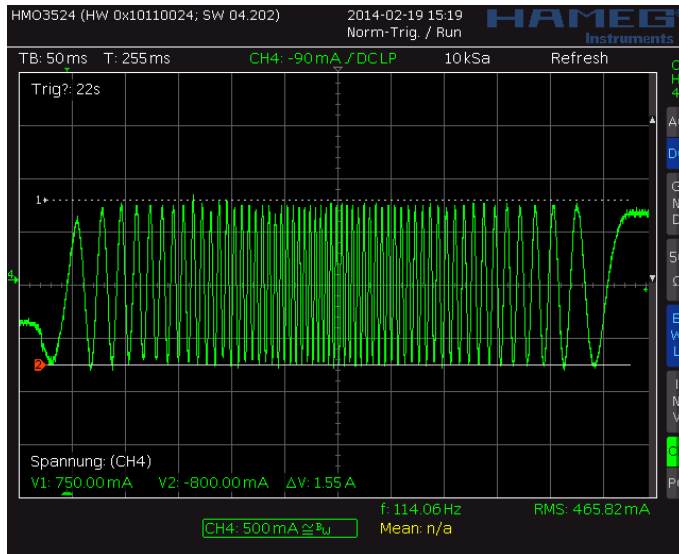
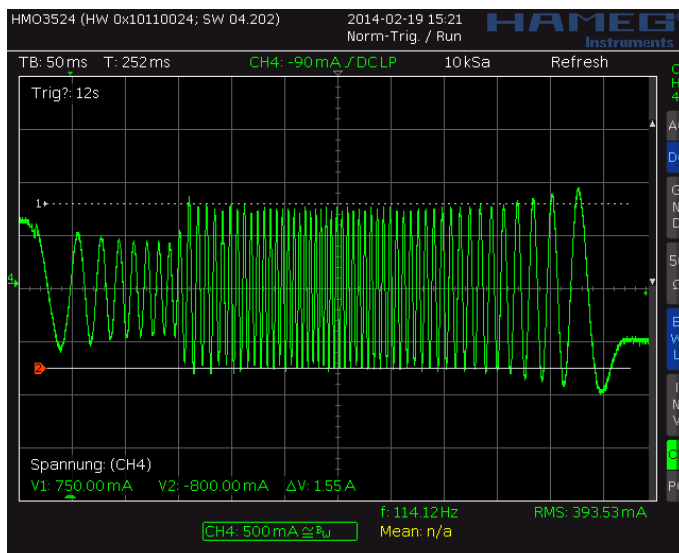
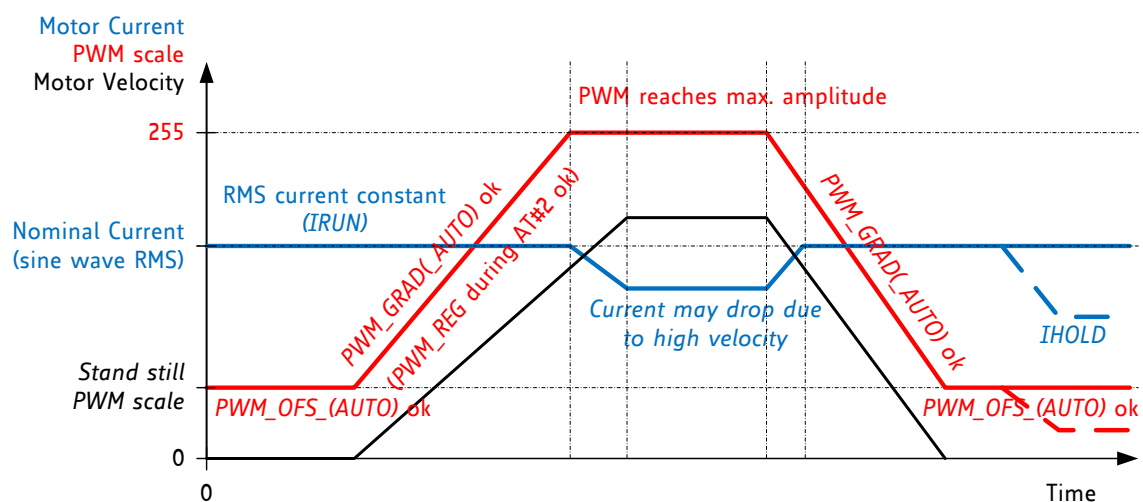

Figure 6.3 Scope shot: good setting for PWM_REG
Figure 6.4 Scope shot: too small setting for PWM_REG during AT#2
Figure 6.5 Successfully determined PWM_GRAD(_AUTO) and PWM_OFS(_AUTO)
In StealthChop voltage PWM mode, the autoscaling function (*pwm_autoscale* = 1, *pwm_autograd* = 1) regulates the motor current to the desired current setting. Automatic scaling is used as part of the automatic tuning process (AT), and for subsequent tracking of changes within the motor parameters. The driver measures the motor current during the chopper on time and uses a proportional regulator to regulate *PWM_SCALE_AUTO* in order match the motor current to the target current. *PWM_REG* is the proportionality coefficient for this regulator. Basically, the proportionality coefficient should be as small as possible to get a stable and soft regulation behavior, but it must be large enough to allow the driver to quickly react to changes caused by variation of parameters (e.g., change of mechanical load). During initial tuning step AT#2, *PWM_REG* also compensates for the change of motor velocity. Therefore, a high acceleration during AT#2 will require a higher setting of *PWM_REG*. With careful selection of homing velocity and acceleration, a minimum setting of the regulation gradient often is sufficient (*PWM_REG*=1). *PWM_REG* setting should be optimized for the fastest required acceleration and deceleration ramp (compare Figure 6.3 and Figure 6.4). The quality of the setting *PWM_REG* in phase AT#2 and the finished automatic tuning procedure (or non-automatic settings for *PWM_OFS* and *PWM_GRAD*) can be examined when monitoring motor current during an acceleration phase Figure 6.5.